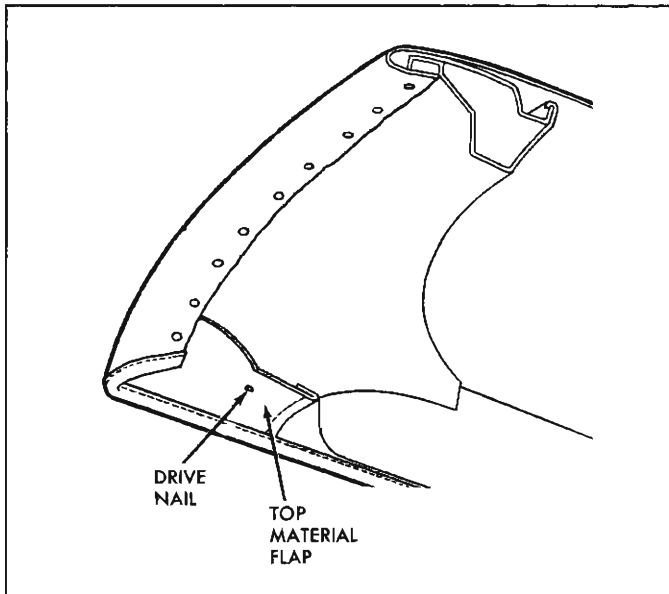

Fig. 54—Top Material at Front Roof Rail
4. Loosen front end of each side roof rail front weatherstrip sufficiently to detach top material flaps which are nailed and cemented to rails (fig. 54).